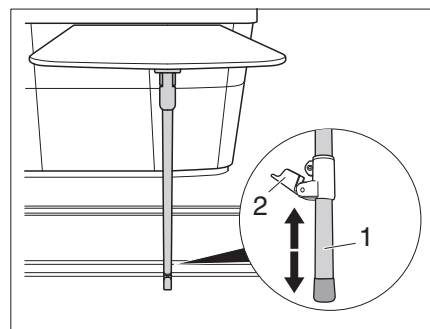

Fig. 13 Adjusting the height
- Move the inner tube (Fig. 13,1) until the table top is horizontal.
- Press the clamp (Fig. 13,2) upwards.